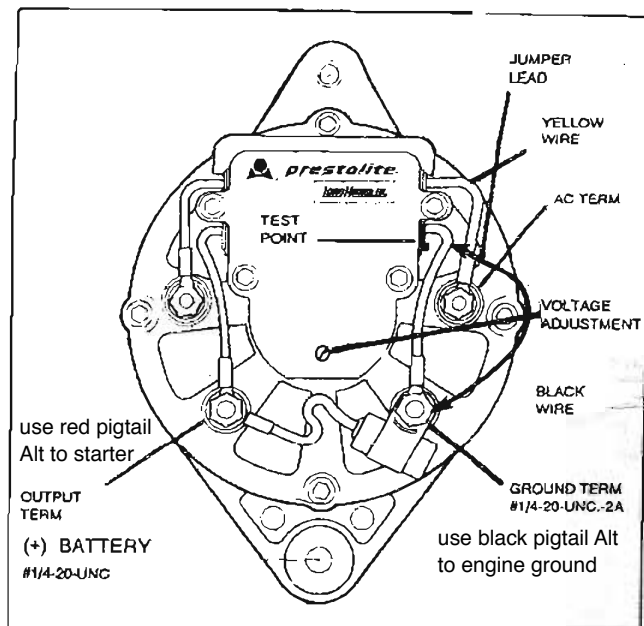

FIGURE 4
3. Using a jumper lead with a paper clip attached momentarily short the test point to ground (See Figure 4.)